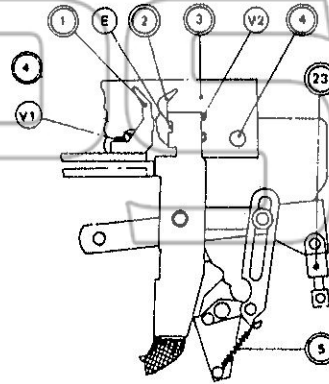

Fig. 6
3. Poles (Fig. 6)
Close breaker and check gap setting of arcing horns. If gap exceeds 1.5mm (0.059 inches), adjust contacts by loosening bolt #V1 (Fig. 6) setting gap to $0.9\text{mm} \pm 0.1\text{mm}$ (0.035 ± 0.004 inches) and tightening bolt by torquing to 0.8mm-kg. (5.8 lb. ft.). Remove both fixed and movable arcing horns along with insulating barriers when thickness of arcing pads erodes to approximately 0.5mm (0.020 inches).